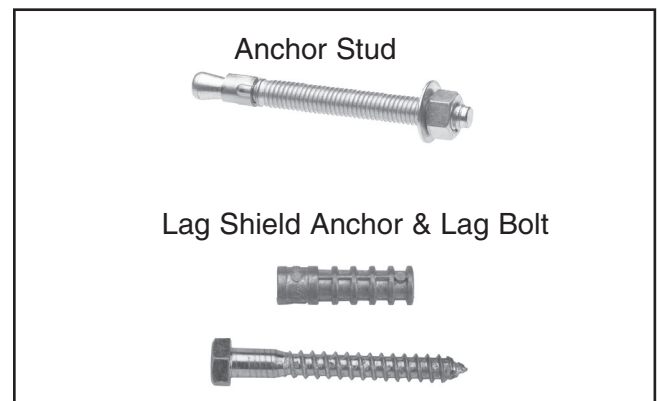
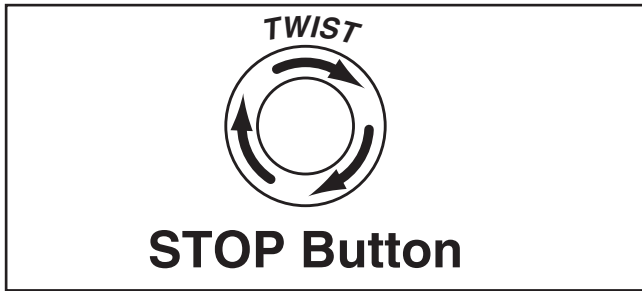

Figure 7. Typical fasteners for mounting to concrete floors.
Figure 15. Resetting the switch.
Lag shield anchors with lag bolts (**Figure 7**) and anchor studs (**Figure 15**) are two popular methods for anchoring an object to a concrete floor. We suggest you research the many options and methods for mounting your machine and choose the best that fits your specific application.
5. Push the EMERGENCY STOP button in, then twist it clockwise so it pops out. When the EMERGENCY STOP button pops out, the switch is reset and ready for operation (see **Figure 15**).